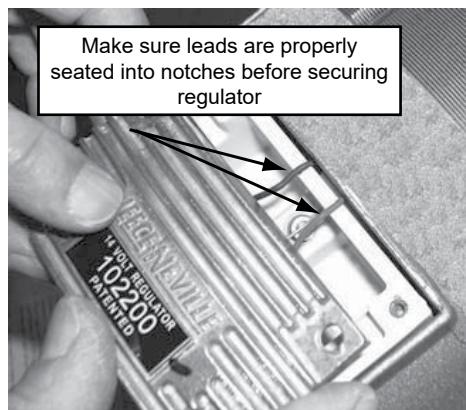

Fig 10
Step 11: If alternator came with an internal filter capacitor please refer to Fig 10 for proper installation.
Use caution not to pinch regulator sense wires. See Fig 10.